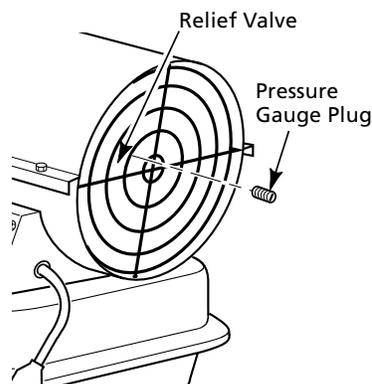
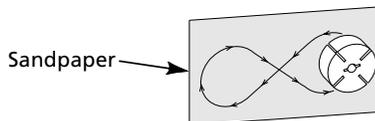

Figure 8 - Pressure Gauge Plug Removal
Figure 18 - Sanding Rotor
1. Remove pressure gauge plug from filter end cover (See Figure 8).
14. Place fine grade sandpaper (600 grit) on flat surface. Sand rotor lightly in "figure 8" motion four times (See Figure 18).